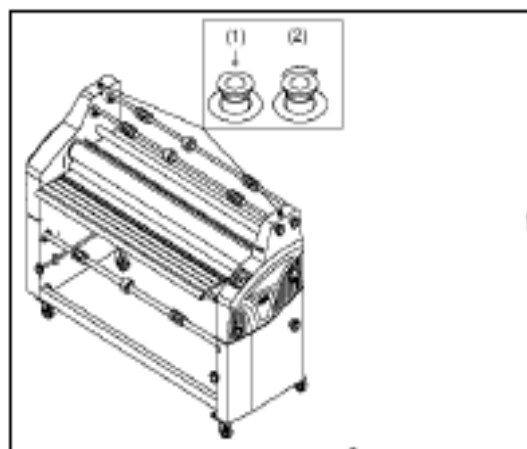

Fig. 11
A. E-STOP: (Figure 11) Two E-STOP buttons exist on the laminator. One on each side of the upper cabinet.